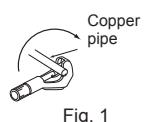

Fig. 1
- The drain hose should point downward for easy drain flow. (Fig. 1)
- Cut the copper pipe correctly with pipe cutter. (Fig. 1, 2)